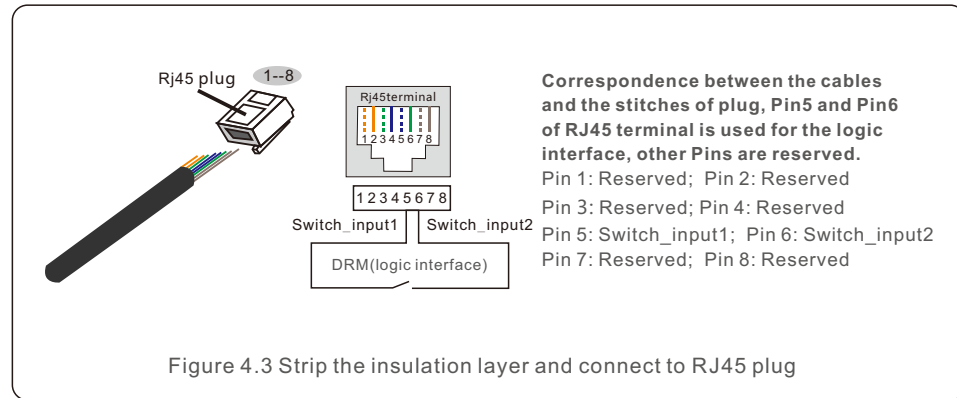

Figure 4.3 Strip the insulation layer and connect to RJ45 plug
- 2.Use the network wire stripper to strip the insulation layer of the communication cable. According to the standard line sequence of figure 4.3 connect the wire to the plug of RJ45, and then use a network cable crimping tool to make it tight.